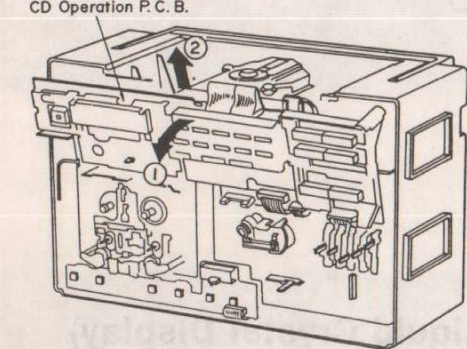

Fig. 2
5. Pull down the CD operation P.C.B. in the direction of arrow ① and then remove it in the direction of arrow ②. (See Fig. 2)